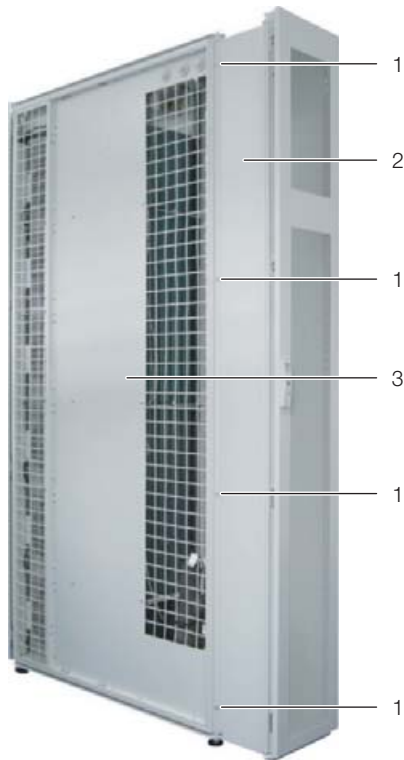

Fig. 23: Fit the adaptor on the LCP Inline
- Attach the adaptor (Fig. 23, item 2) to the rear opening of the LCP Inline using four of the supplied screws (Fig. 23, item 1) each on the left and right.